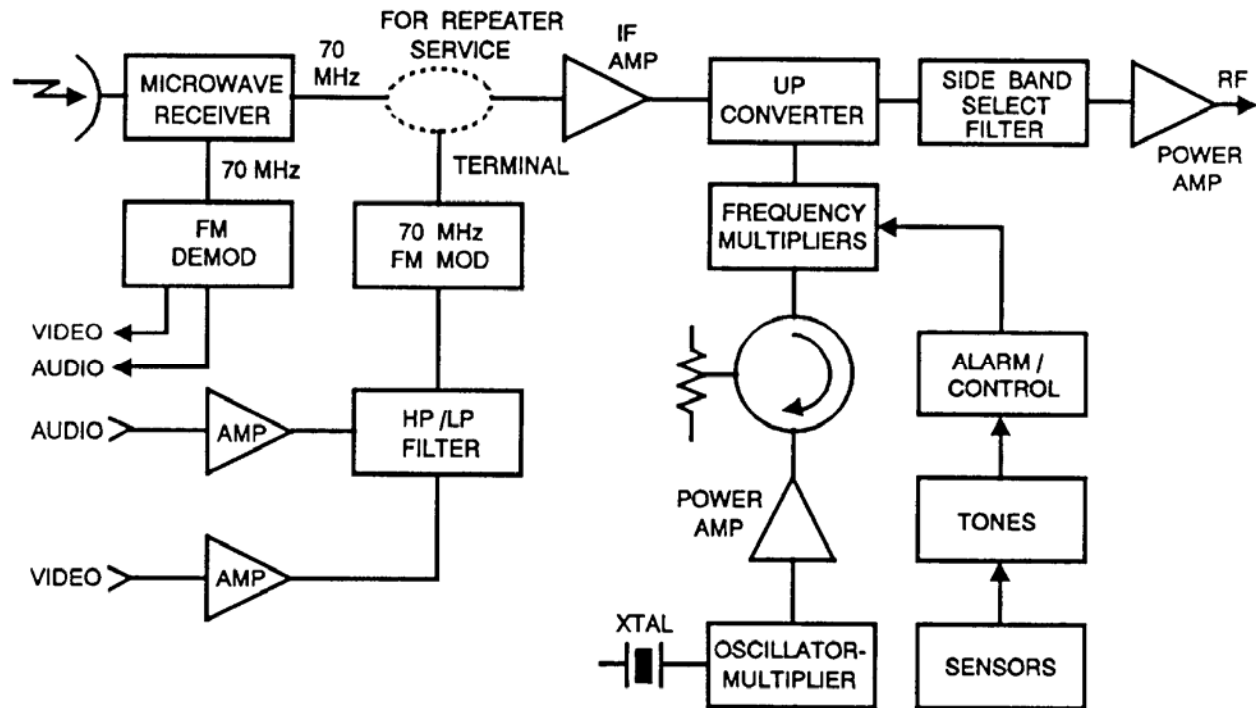

Figure U-3. Heterodyne Transmitter Block Diagram
b. Figure U-3 shows a heterodyne transmitter. It consists of an IF amplifier and a microwave source, both of which feed an up converter mixer. The source is similar to that used in the remodulating transmitter except it need not be modulated. The mixer heterodynes the 70 MHz IF input signal up to a microwave signal ± 70 MHz different from the source frequency depending upon the sideband selected. The sideband select filter passes the desired sideband while rejecting the undesired sideband and source frequency.